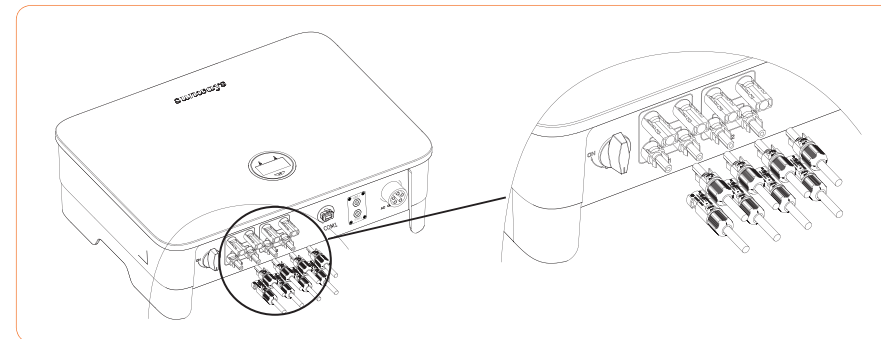

Figure 4-18
② Use a multimeter to measure the voltage of the DC input string, verify the polarity of the DC input cable, and ensure that each string voltage is within 1000V.
3. Insert the positive and negative connectors into the inverter DC input terminals respectively, a click sound should be heard if the terminals are well connected, as shown in Figure 4-18: